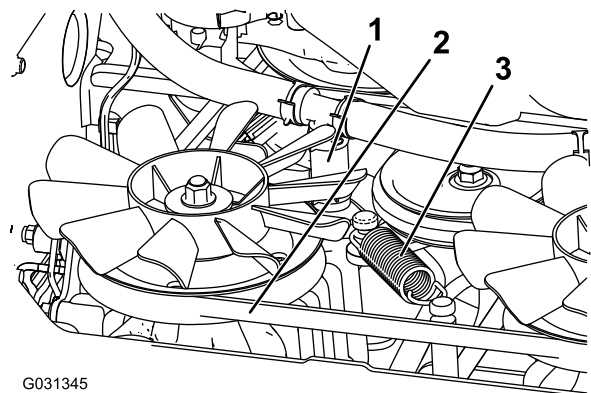

Figure 72
5. Remove the lower hydraulic hose (Figure 72).
6. Remove the tension spring (Figure 72).
7. Remove the deck belt from the clutch and clutch stop (Figure 72).